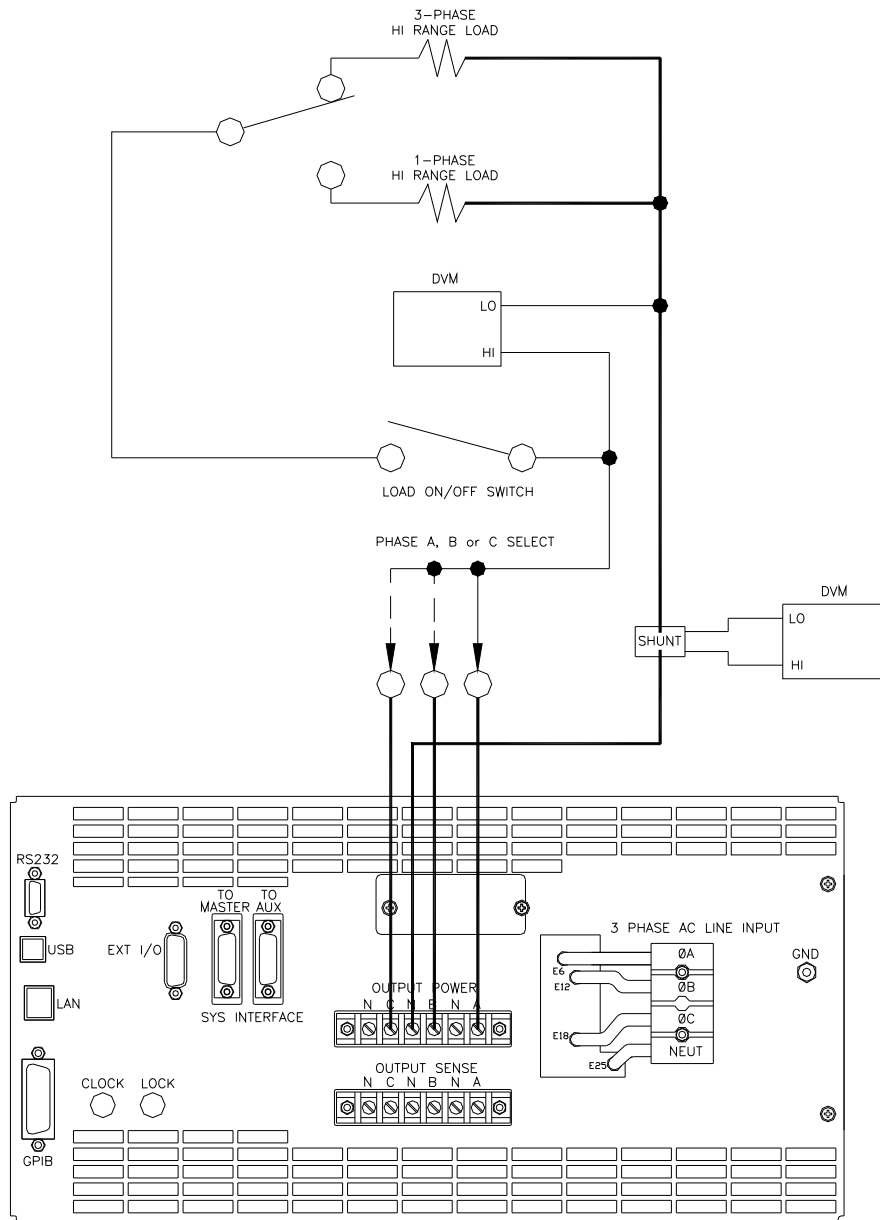

Figure 6-1: Test Equipment Hook-up for Calibration
2. Connect the load and the Current Shunt to the Phase A output as shown in Figure 6-1. Connect the Current Shunt to the Neutral output so it does not have to be moved when switching the load to the other phases. Connect the External DMM to the sense terminals of the Current Shunt.
This calibration will only affect the output voltage settling time. It sets the ALC or voltage servo to the center of its corrections range. Connect the test equipment to the power source as shown in Figure 6-1. Do not connect the load for the following adjustment. The AC output calibration does not require an AC DVM operating with the highest accuracy. The numeric value for the calibration range is from 0 to 65535.